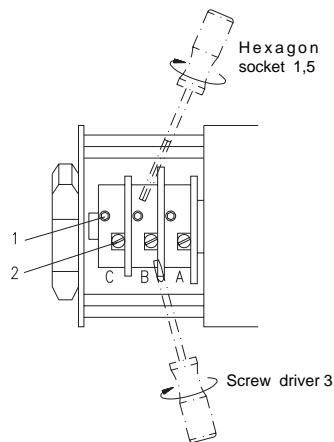

Fig. 8: Trip cam adjustment
- Bring the turnable trip cams (A, B, C) into a position which is favorable for fine adjustment: grub screw (1) and screw (2) must be easily accessible.
- Fix the grub screws (1) to prevent straining of the trip cams.
- The setting screw (2) is used for precise setting of the trip cam; use a screw driver size 3 (see fig. 8).